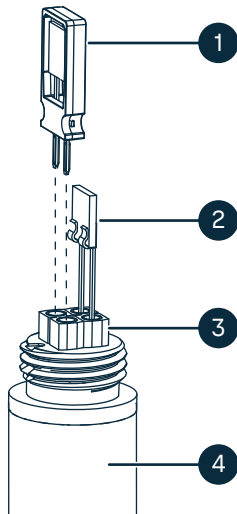

Figure 33 Sensors in models HMD82/83, HMW87, and HMW88/89
3. Remove the filter to access the sensors. See Figure 33 \(page 59\).